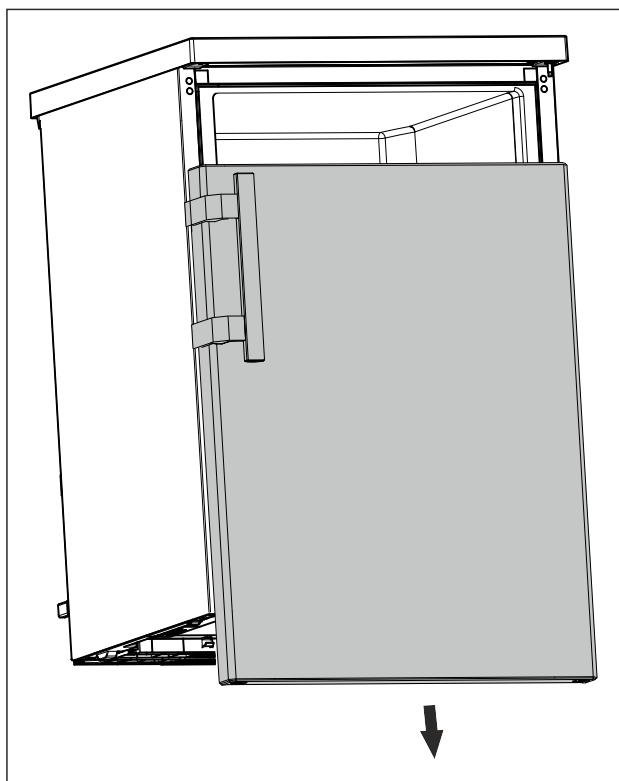

Fig. 14
- Remove the door downwards. (see Fig. 14)